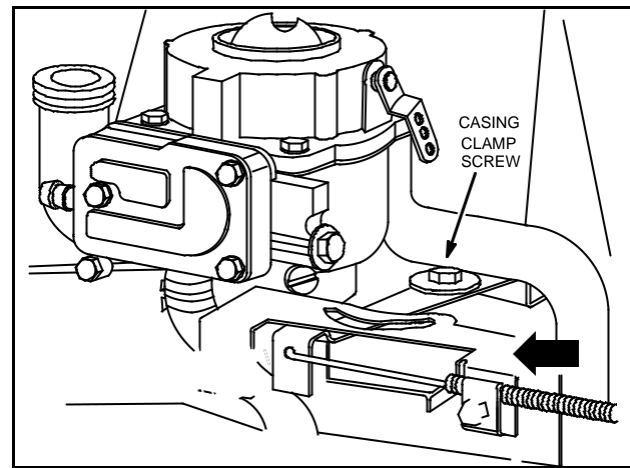

Fig. 7 – Remote Control Adjustment – Pre-Twin II Horizontal Crankshaft (Type Nos. Below 1100)
3. Move control casing and wire in direction shown by arrow, Fig. 7.